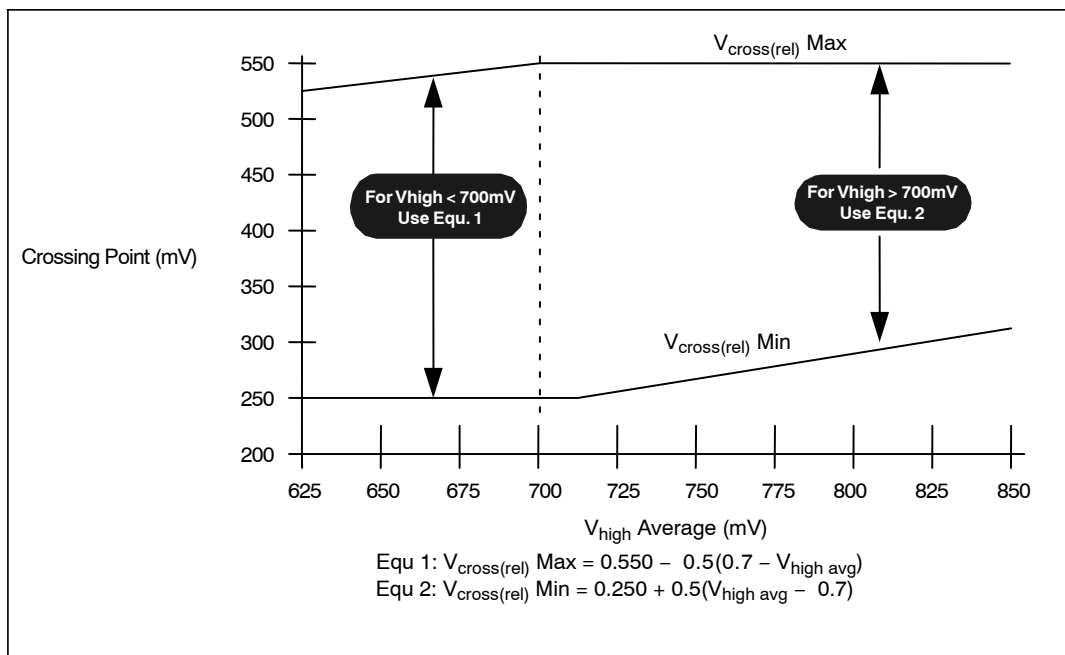

Figure 16.  $V_{cross}$  Range Clarification (Note 36)
16.  $V_{\text{cross}}(\text{rel})$  Min and Max are derived using the following,  $V_{\text{cross}}(\text{rel})$  Min =  $0.250 + 0.5 (V_{\text{high avg}} - 0.700)$ .  $V_{\text{cross}}(\text{rel})$  Max =  $0.550 - 0.5 (0.700 - V_{\text{high avg}})$ . (see Figure 16 for further clarification).